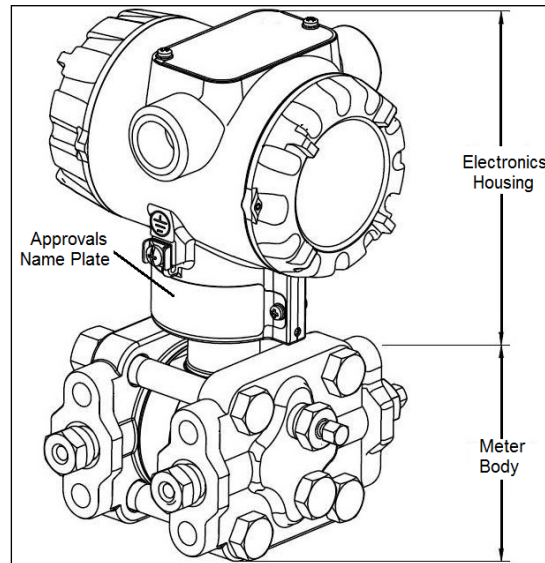
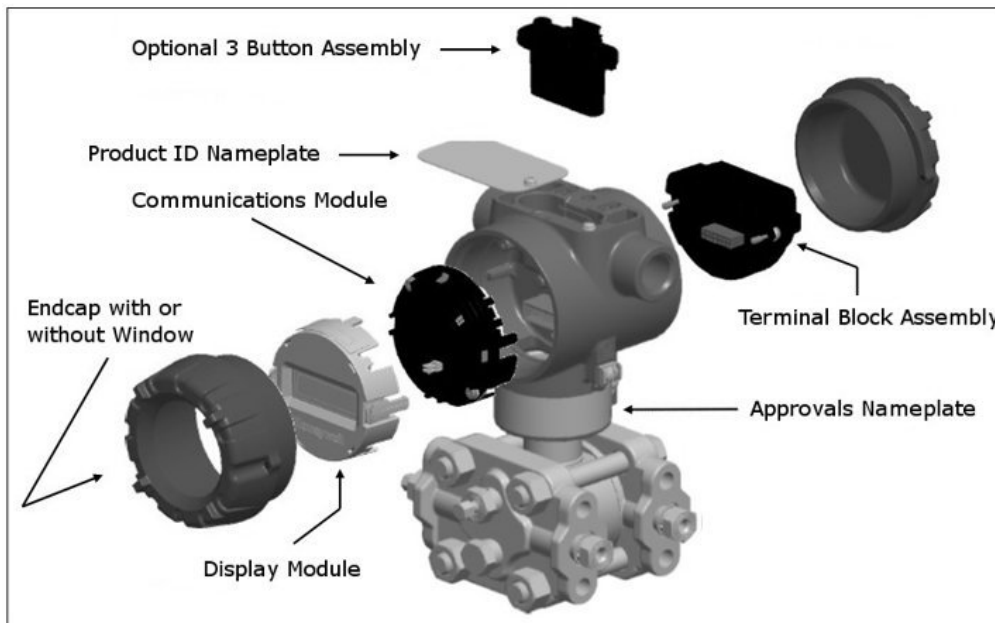

Figure 1 – ST 700 Standard Transmitter Major Assemblies
Figure 2 – ST 700 Standard Transmitter Electronics Housing Components
As shown in Figure 1, the ST 700 standard is packaged in two major assemblies: the electronics housing and the meter body. The elements in the electronic housing respond to setup commands and execute the software and protocol for the different pressure measurement types. Figure 2 shows the assemblies in the electronics housing with available options.
The transmitter nameplate mounted on the bottom of the electronics housing (see Figure 1) lists its model number, physical configuration, electronics options, accessories, certifications, and manufacturing specialties. Figure 3 is an example of a typical Gauge Pressure (GP) or Atmospheric Pressure (AP) transmitter name plate. The model number format consists of a Key Number with several table selections. The Differential Pressure (DP), Absolute Pressure (AP), and Gauge Pressure (GP) name plates are essentially the same. The DP model provides one additional entry (7 vs. 6) in the meter body Selections (Table I) to accommodate the static pressure rating.
An “approvals” name plate is located on the bottom of the electronics housing assy; see Figure 1 for exact location. The approvals name plate contains information and service marks that disclose the transmitter compliance information.